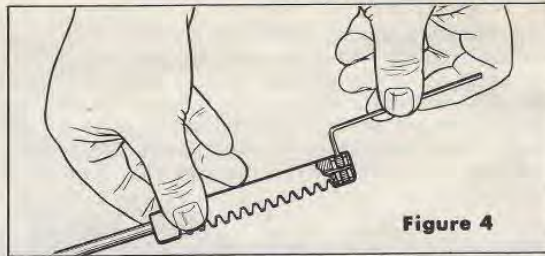

Figure 4
2. Insert control wire in gear rack, flush with end of gear rack. See Figure 4. Anchor control wire in gear rack as described under "Anchoring Control